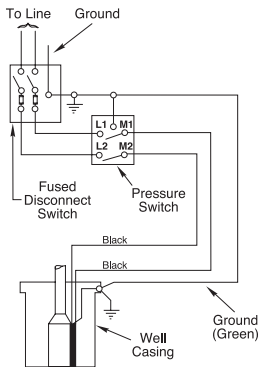

Figure 1 - Single phase, 2-wire connections. This is correct connection information for 115 and 230 volt 2-wire motors only.
2-wire pumps have two power supply wires (Black/Black) and one ground wire (Green). Control box is not required. See Figure 1 for correct hook-up information for 2-Wire motors.
4. Connect motor leads and power supply to fused disconnect. (see Figure 1). **Do not start pump yet.**